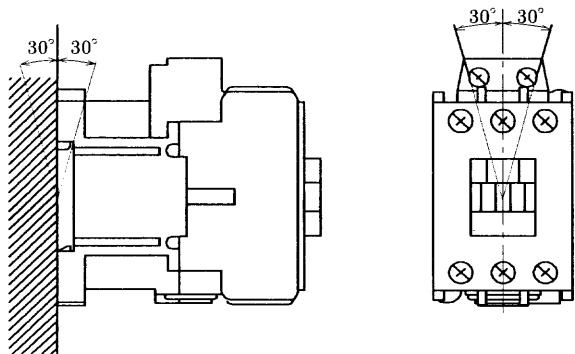

Fig. 1
- (1) Mount in a dry, clean and stable location.
- (2) Mounting on a vertical surface. The product must not incline more than 30° (Fig. 1)